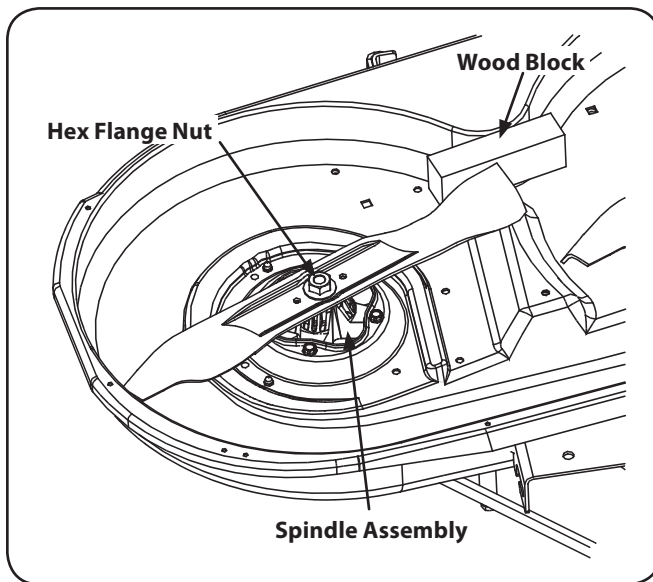

Figure 7-11
2. Use a $\frac{15}{16}$ " wrench to hold the hex nut on top of the spindle assembly when loosening the hex nut securing the blade. A block of wood may be placed between the deck housing and the cutting edge of the blade to help in breaking loose the hex nut securing the blade. See Figure 7-11.